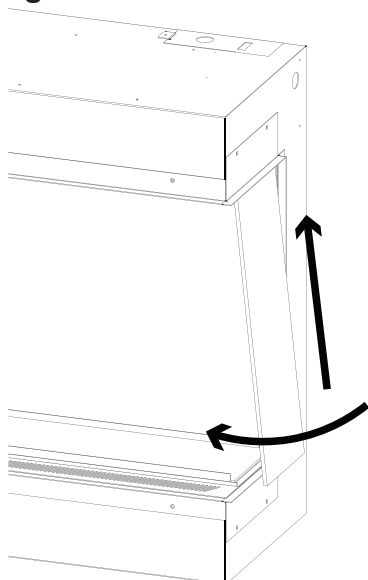

Figure 1.1
3. Swing the bottom edge of the side glass in to the unit. See Figure 1.1.